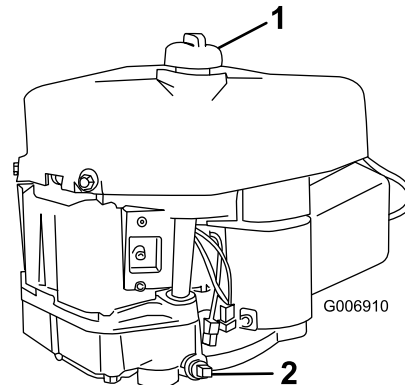

Figure 18
6. Clean around the oil dipstick (Figure 18) so that dirt cannot fall into the fill hole and damage the engine.
- Place a drain pan below the oil drain plug and remove it (Figure 18).
- Slowly pour approximately 80% of the specified amount of oil into the fill hole (Figure 18). Check the oil level; refer to 4 and 5 of Checking the Oil Level.
- Slowly pour about 80% of the specified amount of oil into the fill hole (Figure 18). Check the oil level; refer to 7 and 8 of Checking the Oil Level.